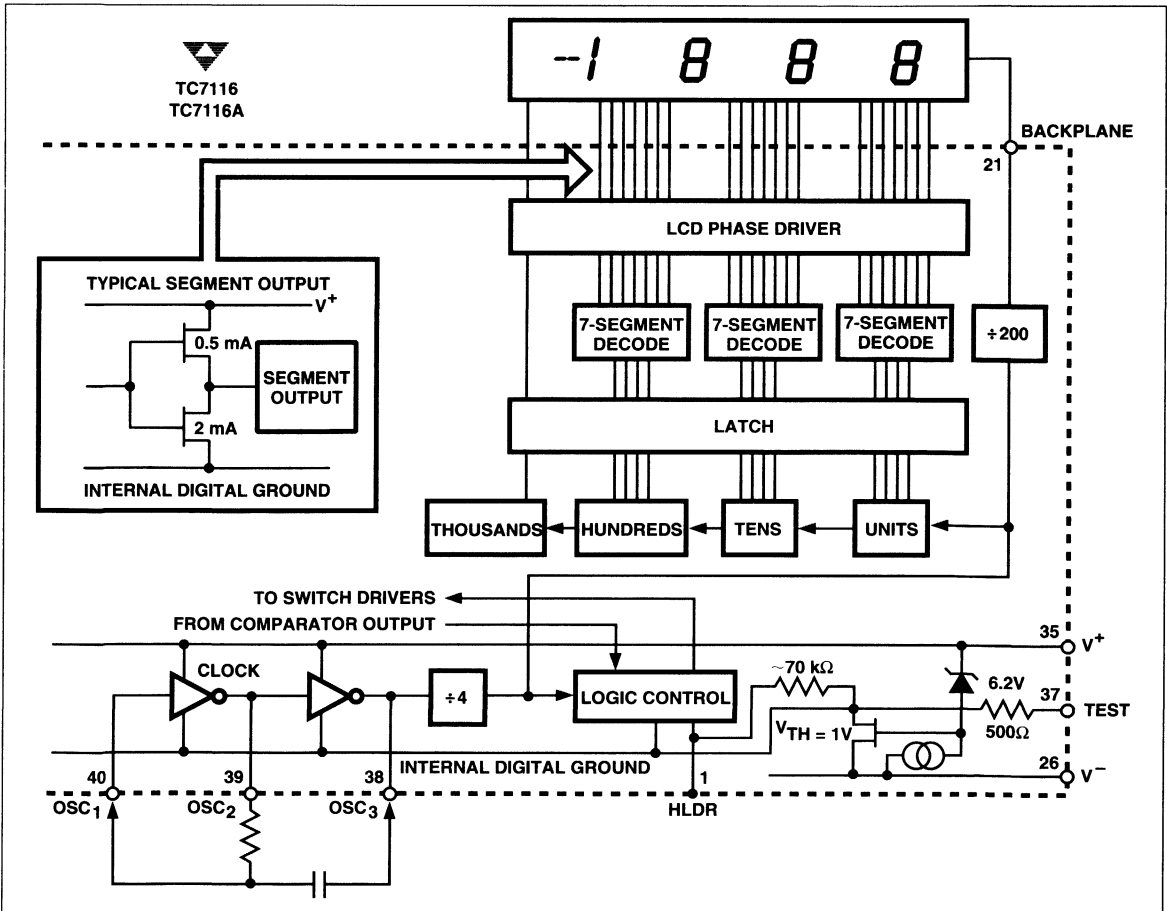

Figure 8 TC7116/TC7116A Digital Section
Figures 8 and 9 show the digital section for TC7116/TC7116A and TC7117/TC7117A, respectively. For the TC7116/TC7116A (Figure 8), an internal digital ground is generated from a 6V zener diode and a large P-channel source follower. This supply is made stiff to absorb the relative large capacitive currents when the backplane (BP)